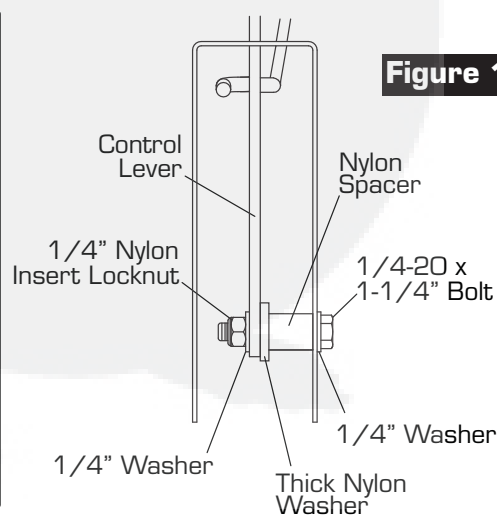

Figure 10
14. Install 1/4-20 x 1-1/4" Bolt and 1/4" Washer through the U shaped bracket, Figure 10.
NOTE: The bolt will not go through both sides of the Control Bracket. Refer to the "End View" in Figure 10 for detailed assembly.